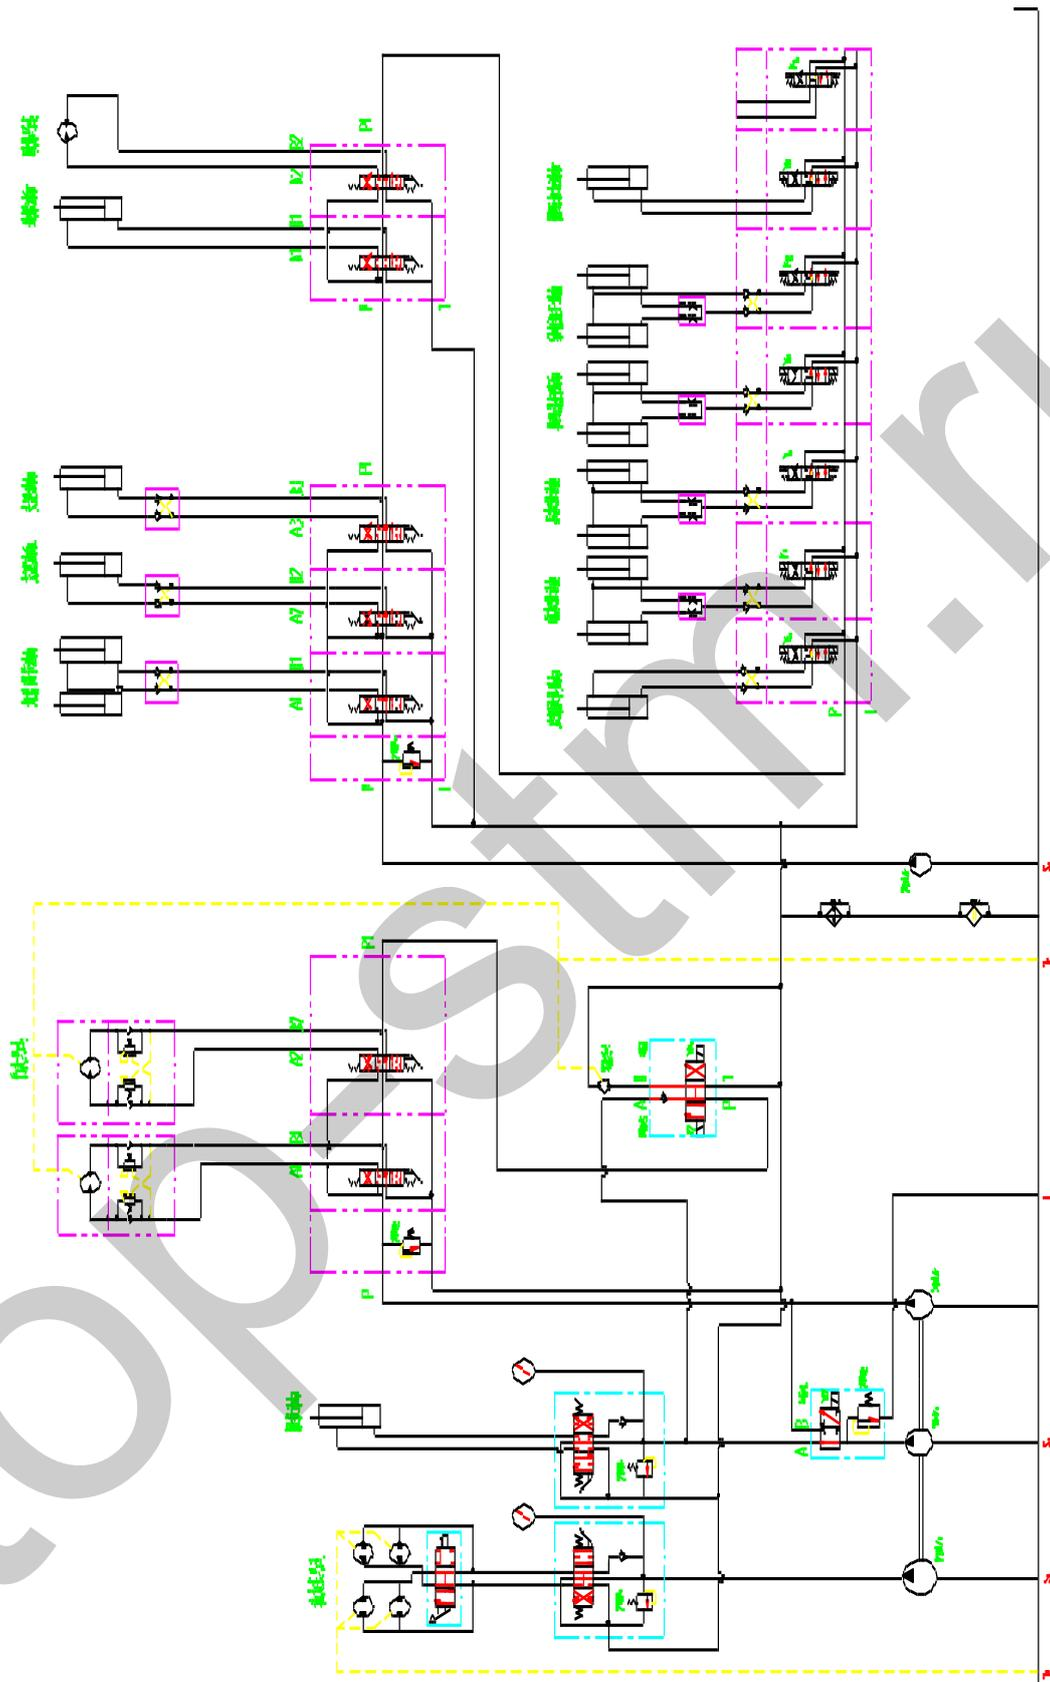

Figure 2 Principle diagram of hydraulic system
**2.9 Principle of hydraulic system is shown in Figure 2.**